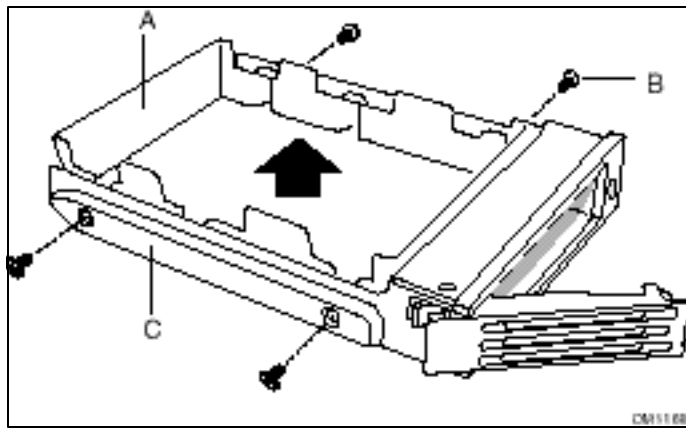

Figure 20. Removing an Air Baffle from a Drive Carrier
3. Remove the air baffle (Figure 20, A) from the drive carrier by removing the four screws (B) from the slide track (C).